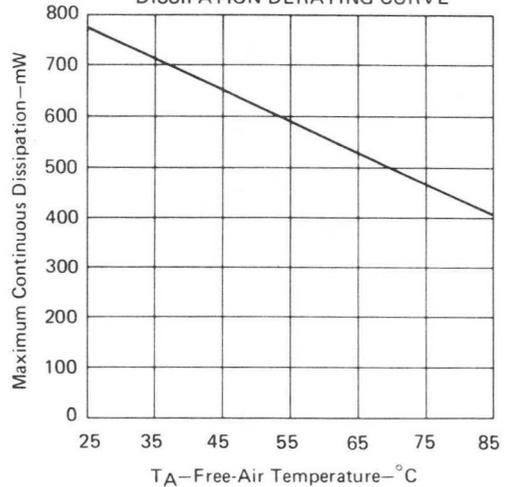

FIGURE 7
2. For operation above 25°C free-air temperature, refer to Dissipation Derating Curves, Figure 6 and Figure 7, page 131.